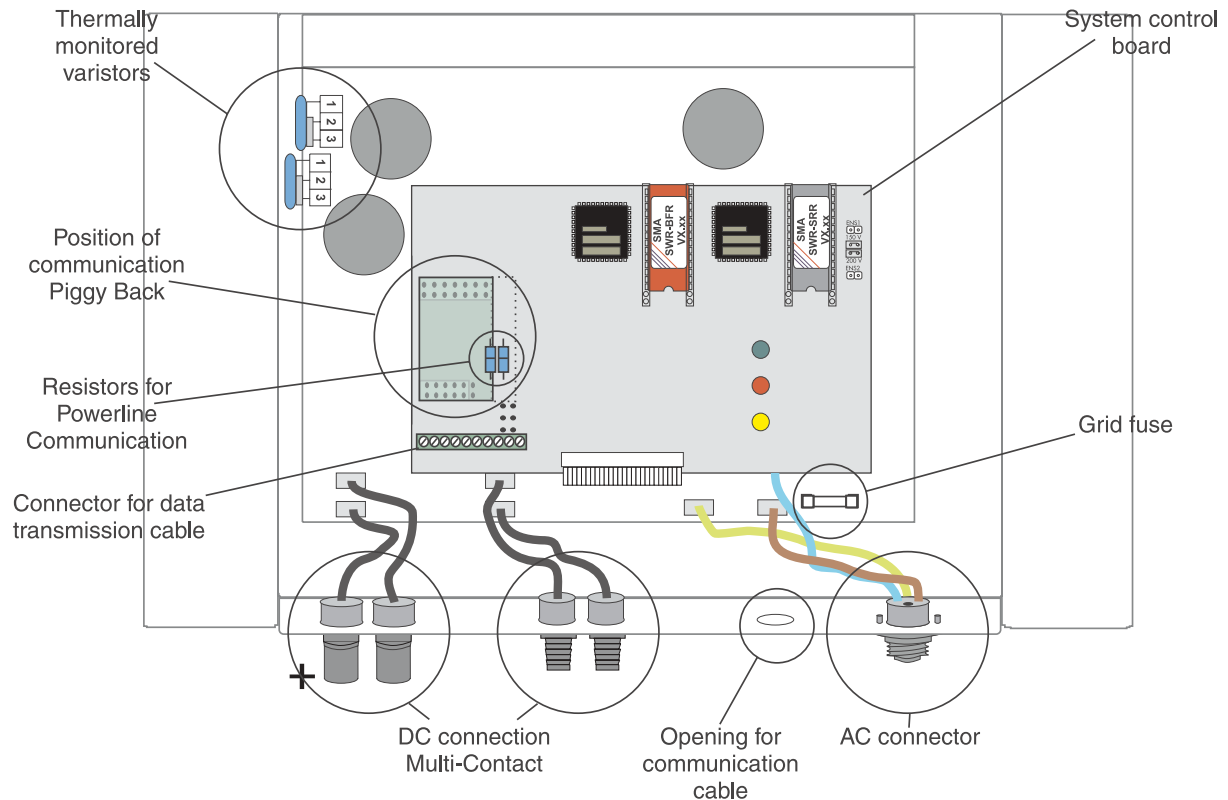

Fig. 5.3: Interior of the Sunny Boy 700
- Remove the two internal thermally monitored varistors (see Fig. 5.3 “Interior of the Sunny Boy 700”) with a screwdriver.
If you do not find any failure have the grid connection to the Sunny Boy checked by a qualified electrician. Check the correct connection and the fuse in the Sunny Boy (see Fig. 5.3: Interior of the).